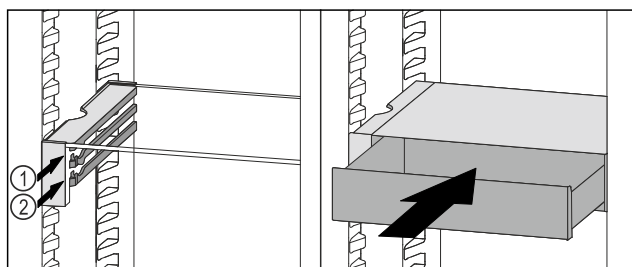

Fig. 203
- Place the VarioSafe drawer behind the stoppers on desired rib Fig. 203 (1) or Fig. 203 (2).